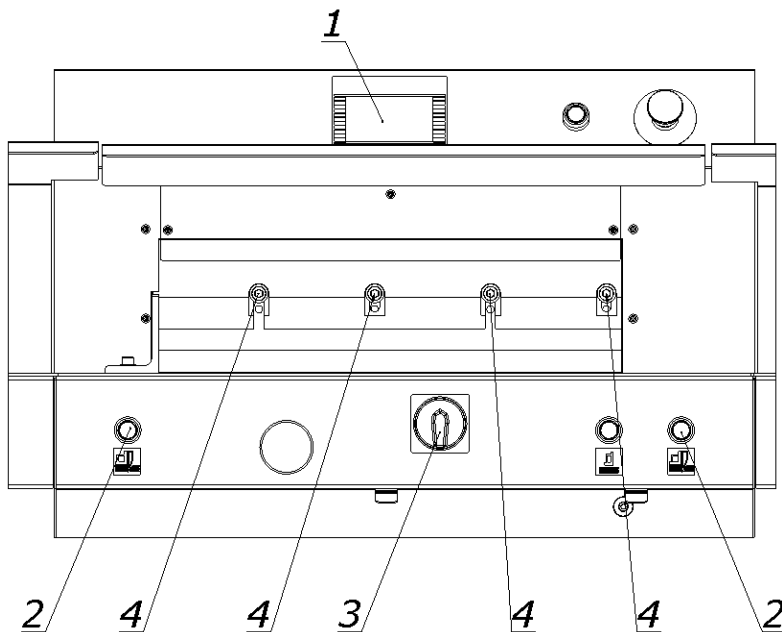

Figure 33.
**8.1.2.9** Pressing the push buttons 2 (Fig. 33) at the same time, start the cutting cycle. The knife will stop in the lower position.
**8.1.2.10.** Switch off the power supply of the electrical system by turning the main switch knob 3 (fig. 33) to the "0" position
**8.1.2.11.** Remove (loosen) the fixing screws 4 (fig.33) so that the knife falls under its own weight on the base bar with its entire length.
**8.1.2.12.** Tighten the adjustment screws 5 (fig. 33) as far as they will go, so that the blade of the knife is cut into the base bar, approx. 0.3 mm.
**8.1.2.13.** Tighten the fixing screws 4 (figure 33)
**8.1.2.14.** Switch on the power supply of the electrical system by turning the main switch knob 3 (fig. 33) to position "I".
**8.1.2.15.** Turn off the "knife change" function on the programmer 1 (fig.33)
**8.1.2.17.** Turn off the power supply of the electrical system by turning the main switch knob 3 (fig. 33) to the "0" position
**8.1.2.19.** Turn on the power supply of the electrical system by turning the knob of the main switch 3 (fig.33) to position "I"